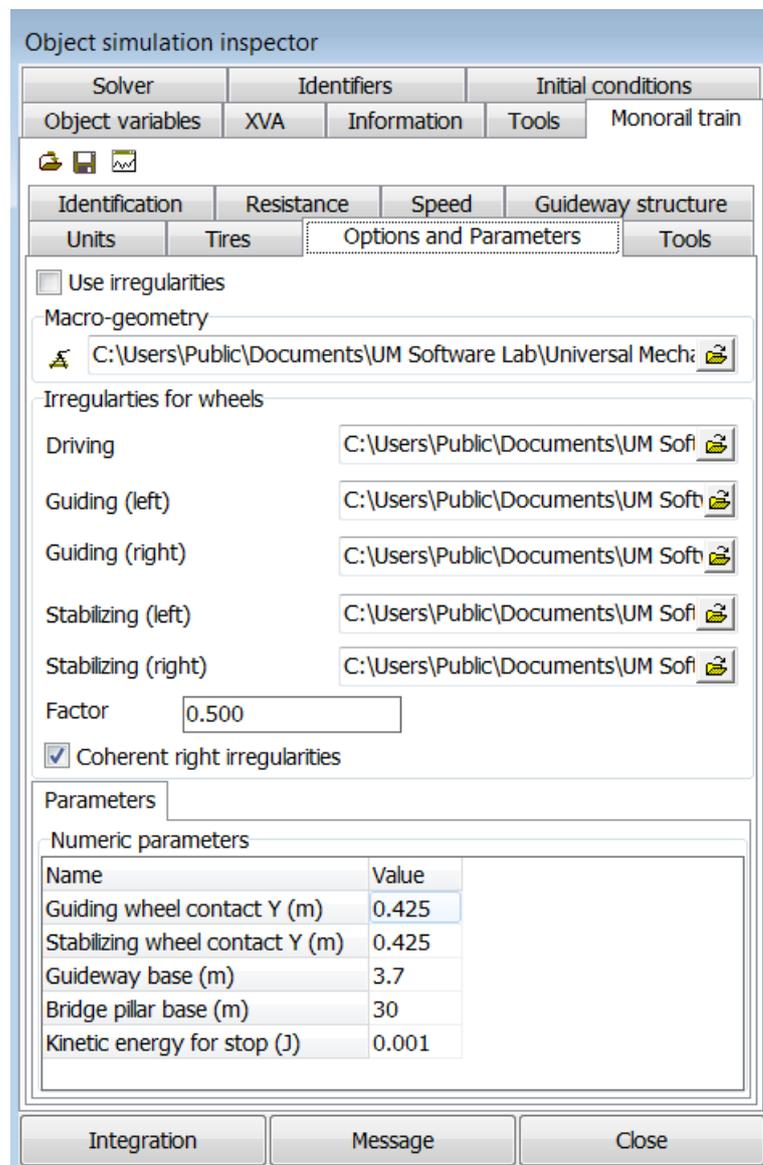

Figure 26.26. Object simulation inspector
The most part of the monorail specific data is entered and modified with the help of the **Monorail train** tab in the **Object simulation inspector**, figure 26.26. Use the **Analysis | Simulation...** menu command of the UM Simulation program to open the inspector. The entered data can be saved in vehicle configuration files *.mrt. Use the buttons on the tab to read/write data.
4. Assign a preliminary created file of macro-geometry by the , figure 26.26. Use the  button to view/modify the macro-geometry.
5. If necessary, check the option **Use Irregularities** and assign irregularity files, figure 26.26. The **Factor** increases (<1) or decreases (>1) assigned irregularities.
6. Set the guideway structure geometrical parameters, figure 26.26:
7. Set the **Kinetic energy for stop** parameter (figure 26.26), which is used in equilibrium simulation (speed mode $v=0$).